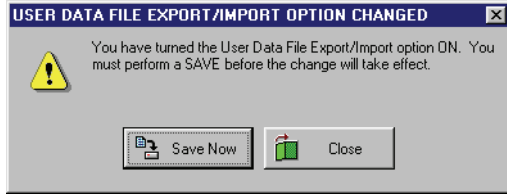

Figure 11-2: User Data File Export/Import Option Changed - ON
2. To enable the User Data File Export/Import feature, click on the **Export/Import ON** check box. A check mark appears in the box. Because the changes required to implement the User Data File Export/Import feature make major changes to the *Doors* program and its supporting databases, a confirmation window appears (see Figure 11-2 on page 4 of this section).